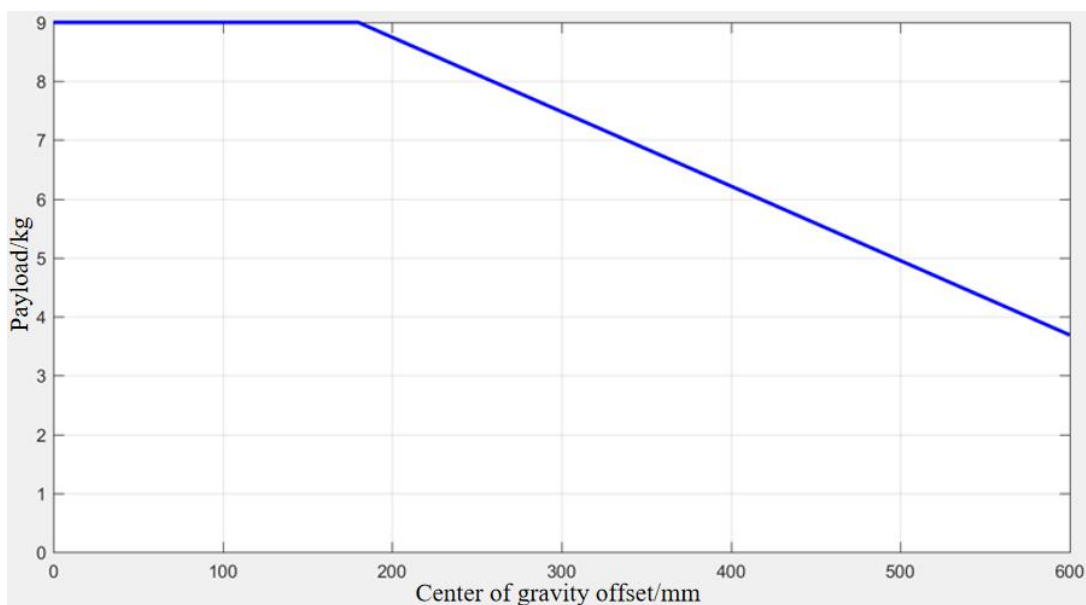

Figure B-6 G9L Payload and center of gravity offset curve
• The relationship curve between the payload of the G9L collaborative robot and the payload center of gravity offset is shown in Figure B-6.